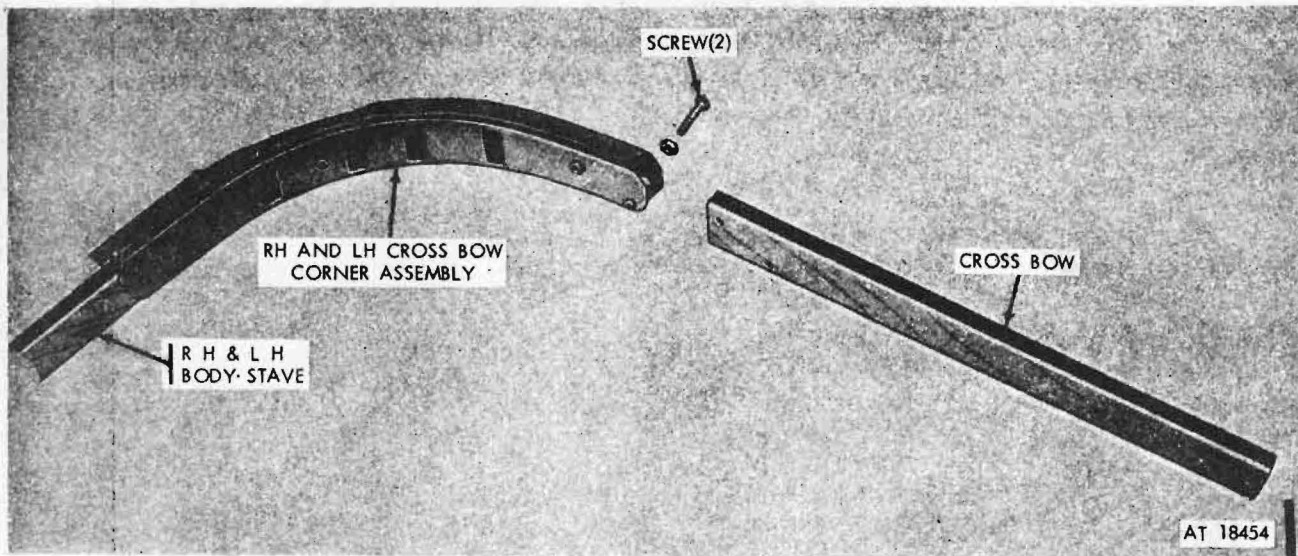

Figure 173.3. Crossbow, stave and corner assembly.
(2) Remove cross bows from stave and corner assemblies (fig. 173.3).
(1) Remove bows and staves from stowage locations and assemble (fig. 173.3).
(2) Position each bow stake in the bow stake tubes and press the bows down to secure the stakes in the tubes. Install the paulin with the end curtains (par. 91).